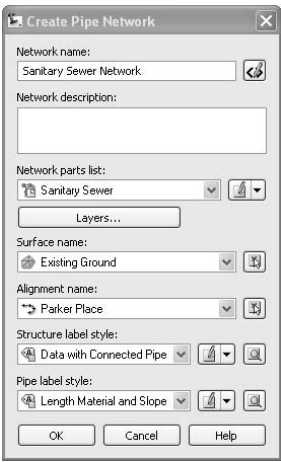

Figure 13.1
3. In the Create Pipe Network dialog, change the Network name to **Sanitary Sewer Network**. Verify that the Sanitary Sewer parts list, the existing ground surface, and Parker Place for the alignment are selected. Change the Structure Label Style to Data with Connected Pipes (Sanitary), and change the Pipe Label Style to Length Material and Slope. The dialog should now look like Figure 13.1.